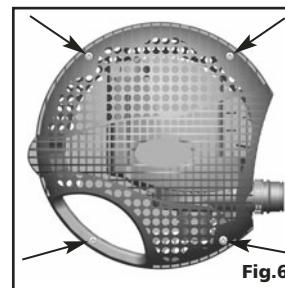

Fig.6
Opening and Closing the Pump Cage (see Fig. 6)
- Remove the pump cage from the pond, unlock the pivot pin fasteners (Fig. 6) and remove the upper half of the cage. Clean all components with streaming water from a garden hose. Reassemble all components with care